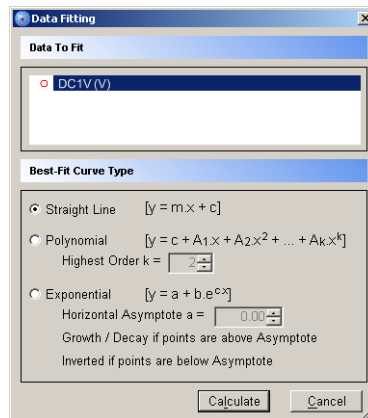

Figure 41 Data Fitting Dialogue Box
1. On the Chart Window, click on the 'Best Fit Line' Toolbar button. A new 'Data Fitting' Dialogue Box will appear, similar to Figure 41.